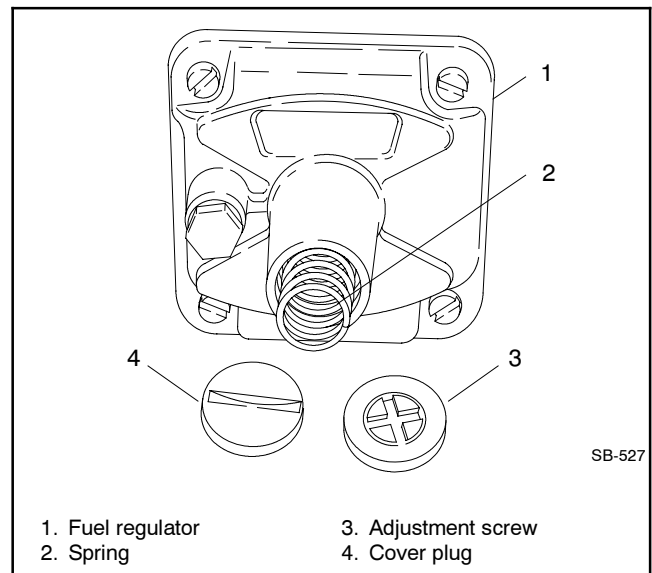

Figure 5 Fuel Regulator, Typical
- 3.2 Remove the cover plug and adjustment screw from the fuel regulator. See Figure 5.